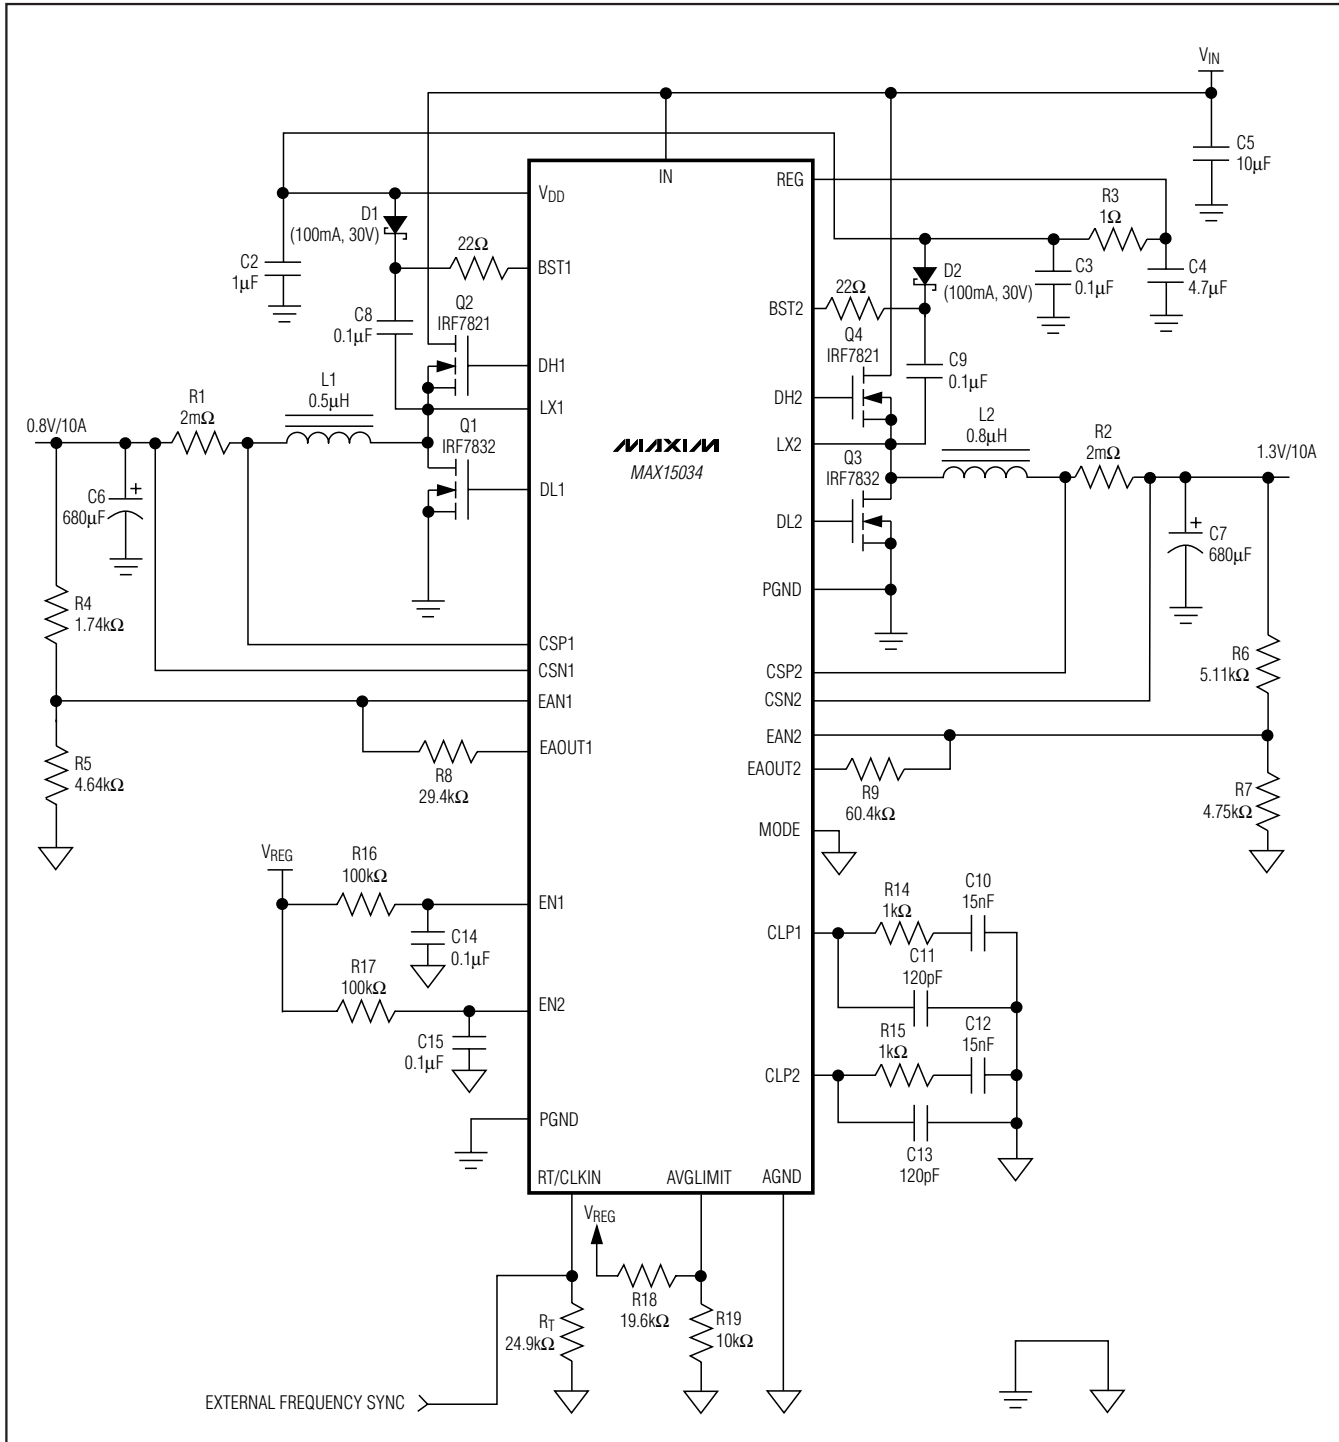
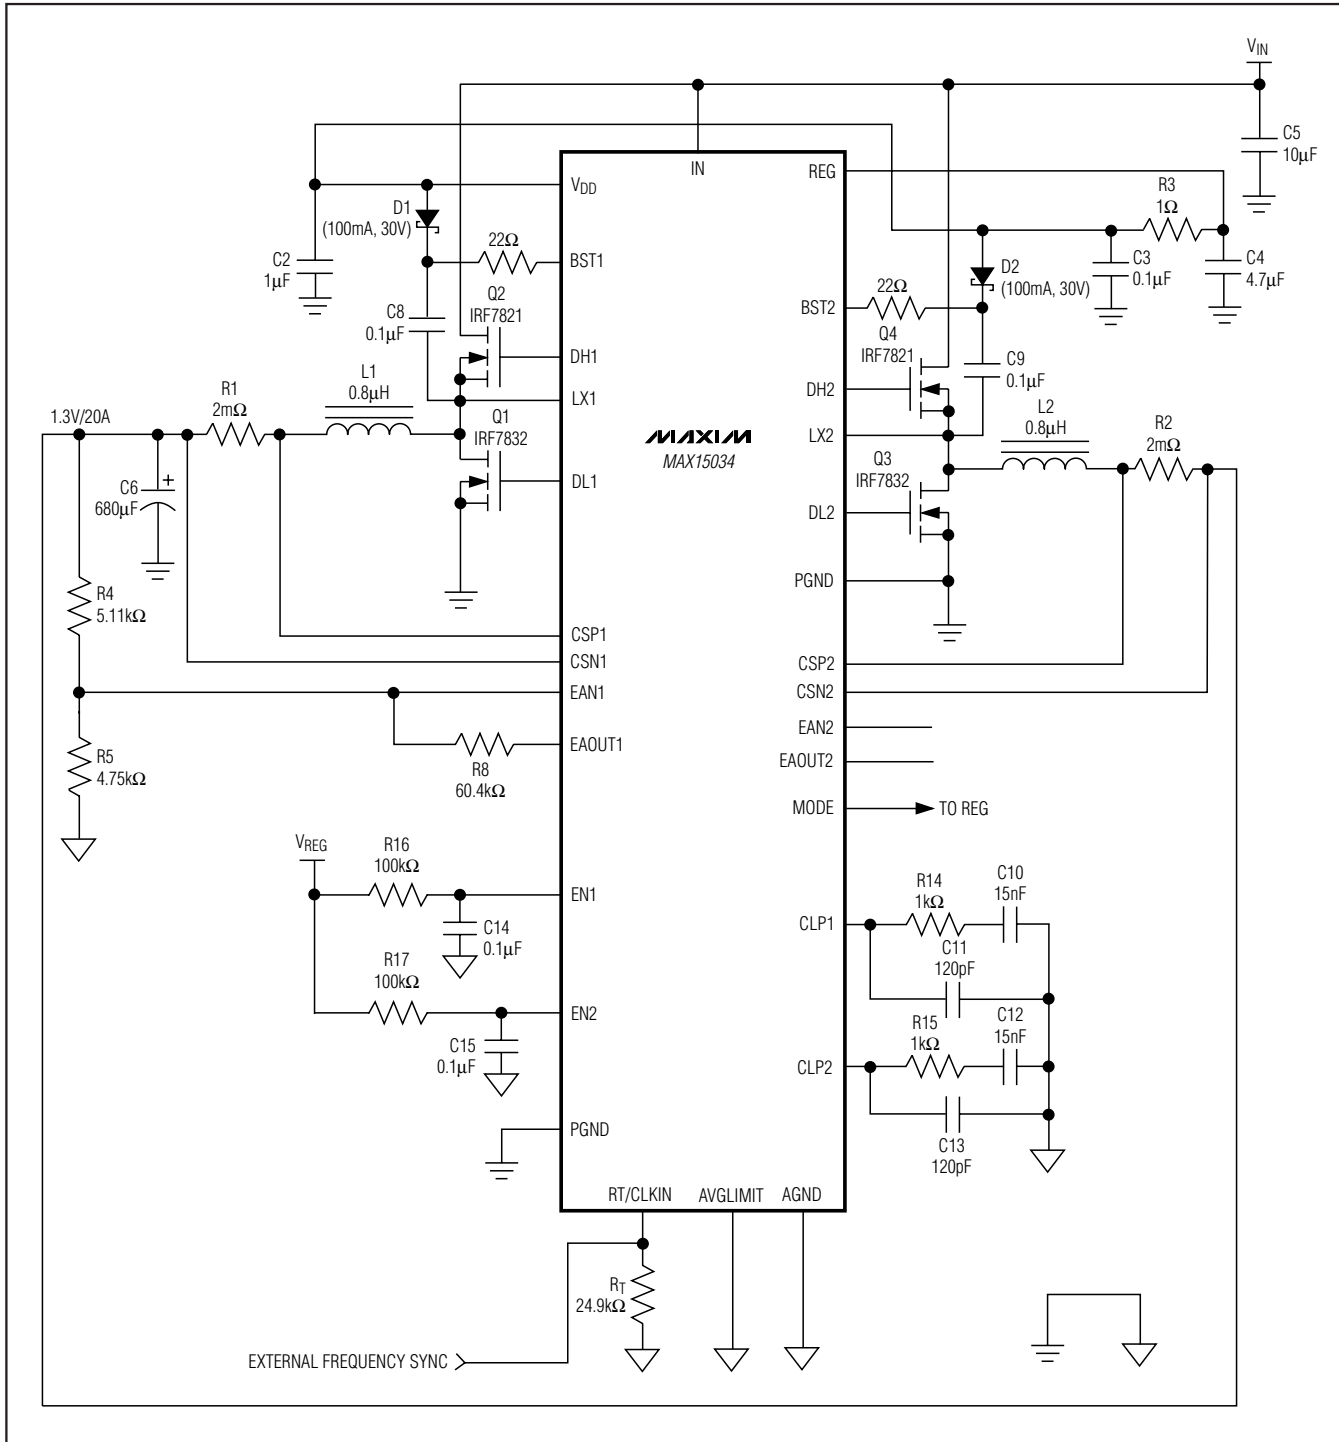

Figure 6. Dual-Output Buck Regulator
Figure 7. Dual-Phase, Single-Output Buck Regulator
where IIN is the quiescent supply current into IN (4mA, typ), QGQ1, QGQ2, QGQ3, QGQ4 are the total gate charges of MOSFETs Q1 through Q4 at VGS = 5V (see Figure 6), and fSW is the switching frequency of each individual phase.
BST1 and BST2 supply the power for the high-side MOSFET drivers for output 1 and output 2, respectively. Connect BST1 and BST2 to VDD through rectifier diodes D1 and D2 (see Figure 6). Connect a 0.1μF ceramic capacitor between BST_ and LX_.
Minimize the trace inductance from BST_ and VDD to the rectifier diodes, D1 and D2, and from BST_ and LX_ to the boost capacitors, C8 and C9 (see Figure 6). This is accomplished by using short, wide trace lengths.
The compensation network at the current-error amplifiers (CLP1 and CLP2) provides an inherent soft-start of the output voltage. It includes (R14 and C10) in parallel with C11 at CLP1 and (R15 and C12) in parallel with C13 at CLP2 (see Figure 6). The voltage at the current-error amplifier output limits the maximum current available to charge the output capacitors. The capacitor at CLP_ in conjunction with the finite output-drive current of the current-error amplifier yields a finite rise time for the output current and thus, the output voltage.
An internal oscillator generates the 180° out-of-phase clock signals required for both PWM modulators. The oscillator also generates the 2Vp-p voltage ramps necessary for the PWM comparators. The oscillator frequency can be set from 200kHz to 2MHz by an external resistor (RT) connected from RT/CLKIN to AGND (see Figure 6). The equation below shows the relationship between RT and the switching frequency:
cycle is less than 50%, choose high-side MOSFETs (Q2 and Q4, Figure 6) with a moderate $R_{DS(ON)}$ and a very low gate charge. Choose low-side MOSFETs (Q1 and Q3, Figure 6) with very low $R_{DS(ON)}$ and moderate gate charge. The driver block also includes a logic circuit that provides an adaptive nonoverlap time (30ns typ) to prevent shoot-through currents during transition. Figure 7 shows the dual-phase, single-output buck regulator.
where I_{MAX} is the full load current of the regulator. V_{OUT} is the output voltage of the same regulator and C_{IN} is C5 in Figure 6. The ESR of the input capacitors wastes power from the input and heats up the capacitor. Reducing the ESR is important to maintain a high overall efficiency and in reducing the heating of the capacitors.
where I_{LOAD_STEP} is the step in load current and $t_{RESPONSE}$ is the response time of the controller. Controller response time depends on the control-loop bandwidth. C_{OUT} is C6 and C7 in Figure 6.
where ΔV_{OUT} is the allowable drop in voltage from no load to full load. R_F is R_8 and R_9 , R_1 is R_4 and R_6 , R_2 is R_5 and R_7 in Figure 6.